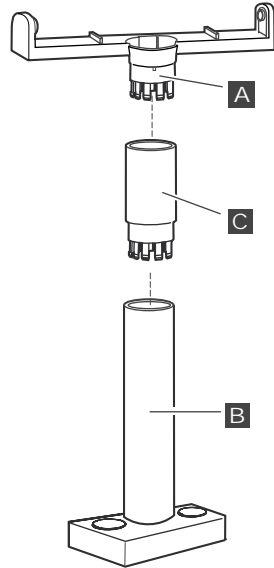

Figure 58. Assemble the post
1. Connect the yoke ( **A** in Figure 58 on page 65) to post ( **B** ). If required, add the extension post ( **C** ) between **A** and **B** .